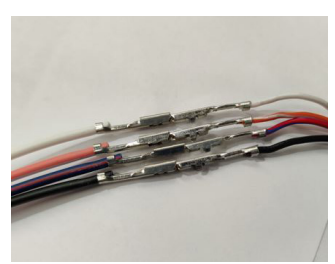

figure 15
9. Insert the male pin terminal of the original wire into the female terminal of the new wire (figure 15).